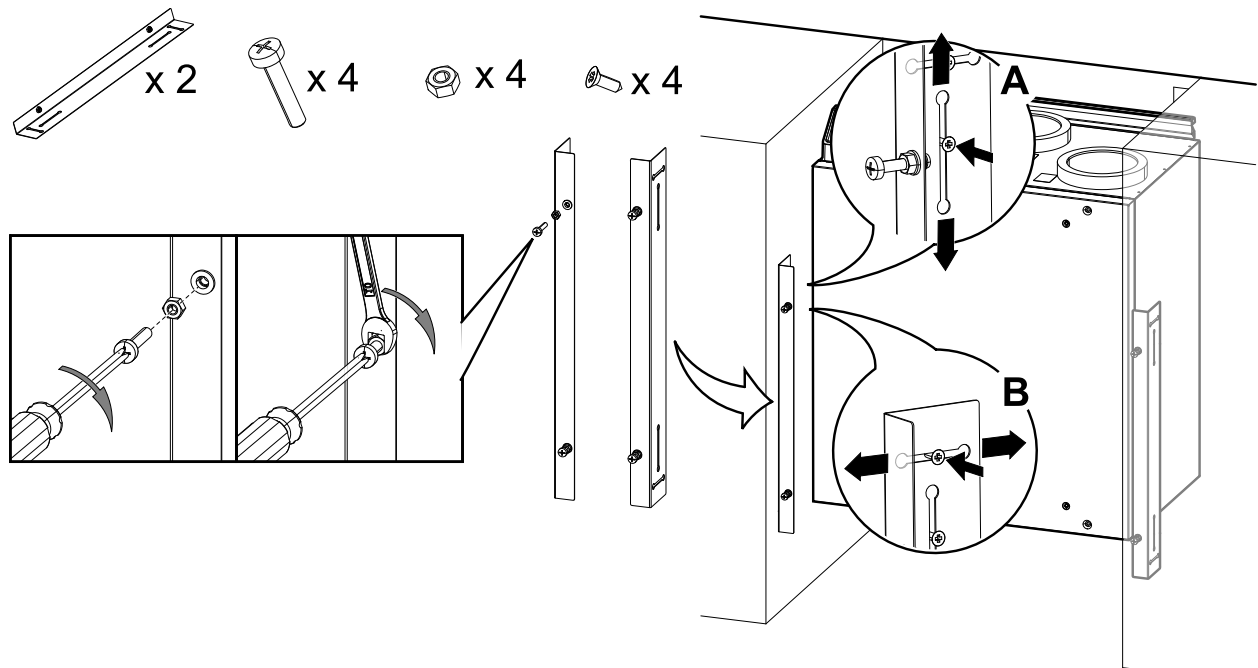

Fig. 14 Installation of bolts and brackets
1. Install four M6 bolts into threaded inserts in brackets and lock bolts with hex nuts (figure 14). Bolts protrusion can be adjusted later.
Brackets are adjustable vertically (figure 14, A) and horizontally (figure 14, B). Align the brackets with the underside of the unit. Fully tighten screws after adjusting the brackets.